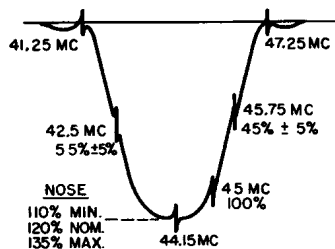

FIG. 4. DESIRED I-F RESPONSE CURVE
7. Align the receiver to produce the response curve shown in Figure 4.